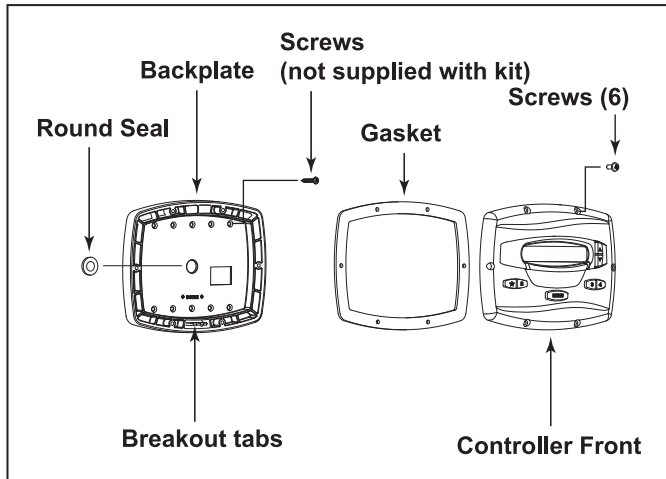

Figure 2. Controller Components
The ePump™ controller assembly (See Figure 2) contains the following components:
- A minimum of two (2) fasteners (installer supplied) are required when installing to a flat wall to hold the controller securely.
- The backplate has ten (10) mounting holes to choose from. Only drill out the backplate holes that will be used. See Figure 2.
- At the bottom of the backplate, cut the two (2) tabs out with an appropriate tool, such as a Stanley knife, and route the cable through the open channel.